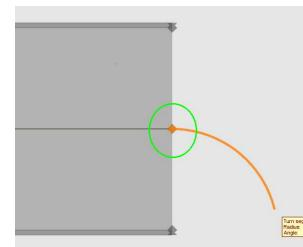

Figure 3.11: The orange circle is the feedback for a correct connection of two road segments
- 3) There are two possible situations of connecting road segments. The first one occurs when you want to place a road segment connected to a previously drawn segment one (e.g. a turn after a straight). Then you have to select the tool (e.g. "Turn" - tool) from the tool panel and move the cursor to the middle line at the end of the first segment. An orange circle (see Figure 3.11) appears. Click the LMB and the start point of the new segment is connected to the first segment.